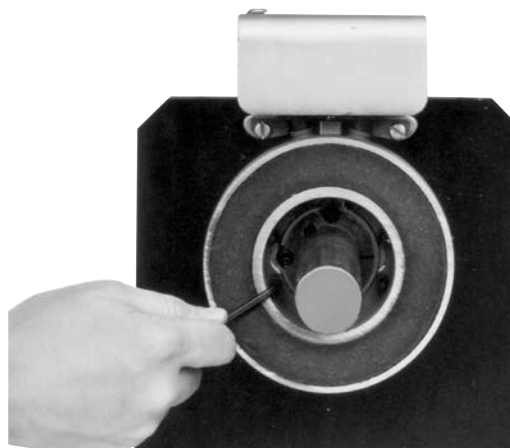

Figure 3
3. Once the mounting surface has been prepared the magnet is bolted in place with capscrews and lockwashers. (Figure 3)